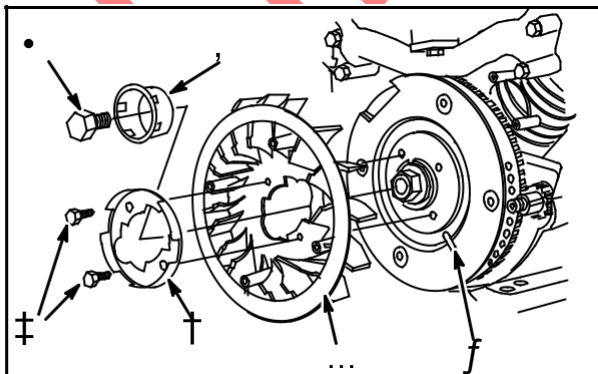

Fig. 18
Align boss on back of fan (5) with notch (3) in fly-wheel, **Fig. 18**.